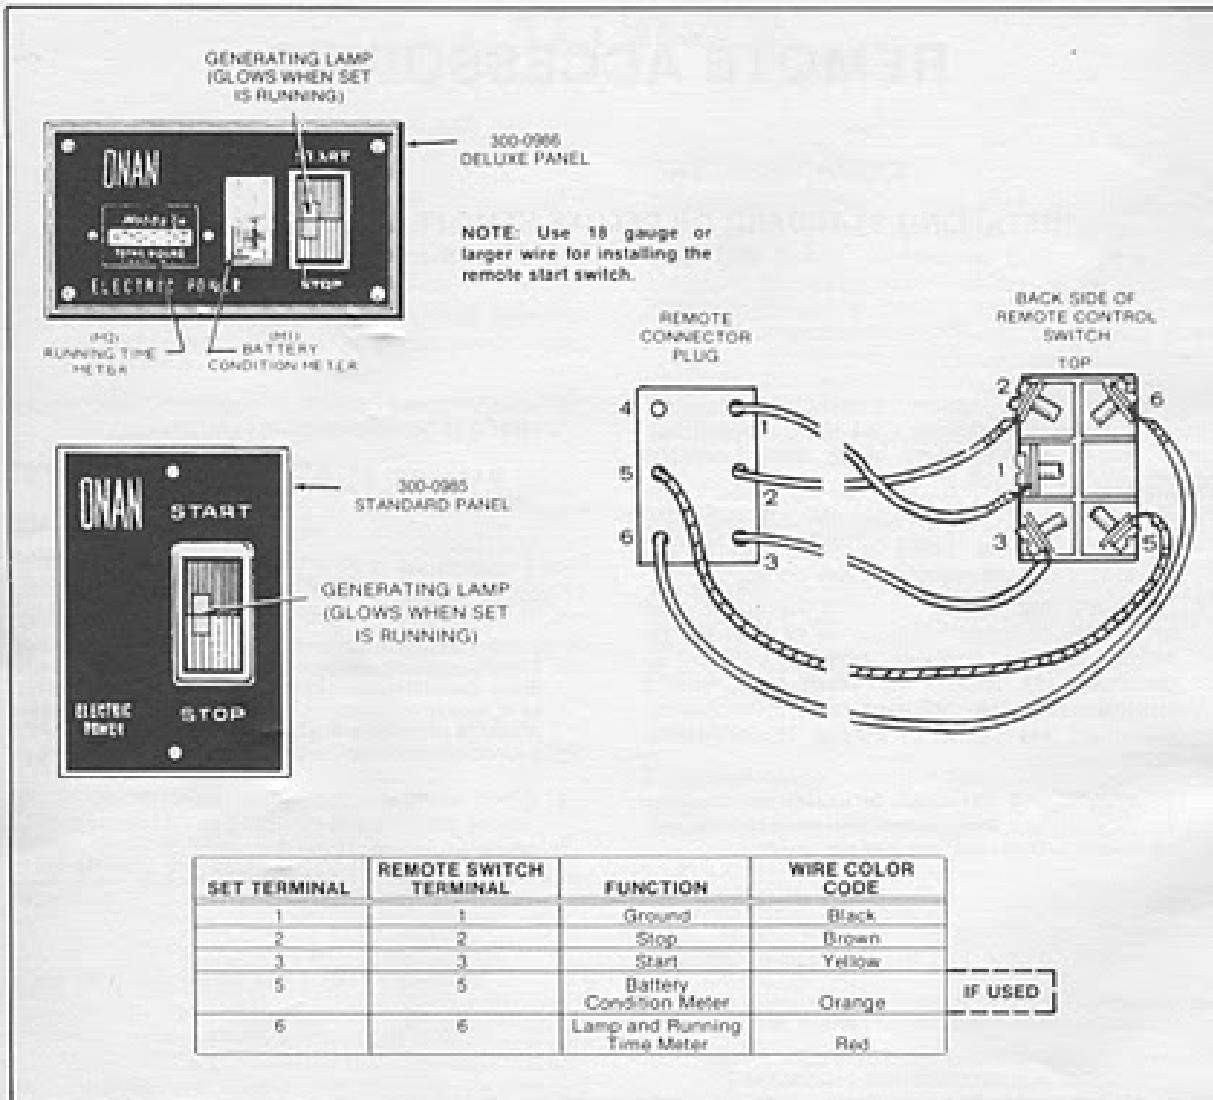

FIGURE 11. WIRING CONNECTIONS FOR 300-0965 AND 300-0966 REMOTE CONTROLS
2. Following national local electrical codes and using #18 or larger insulated wires of predetermined length, connect remote control to generator set. Ensure that leads from remote control connect to corresponding terminals on generator set. Refer to Figure 11 for wiring connections.